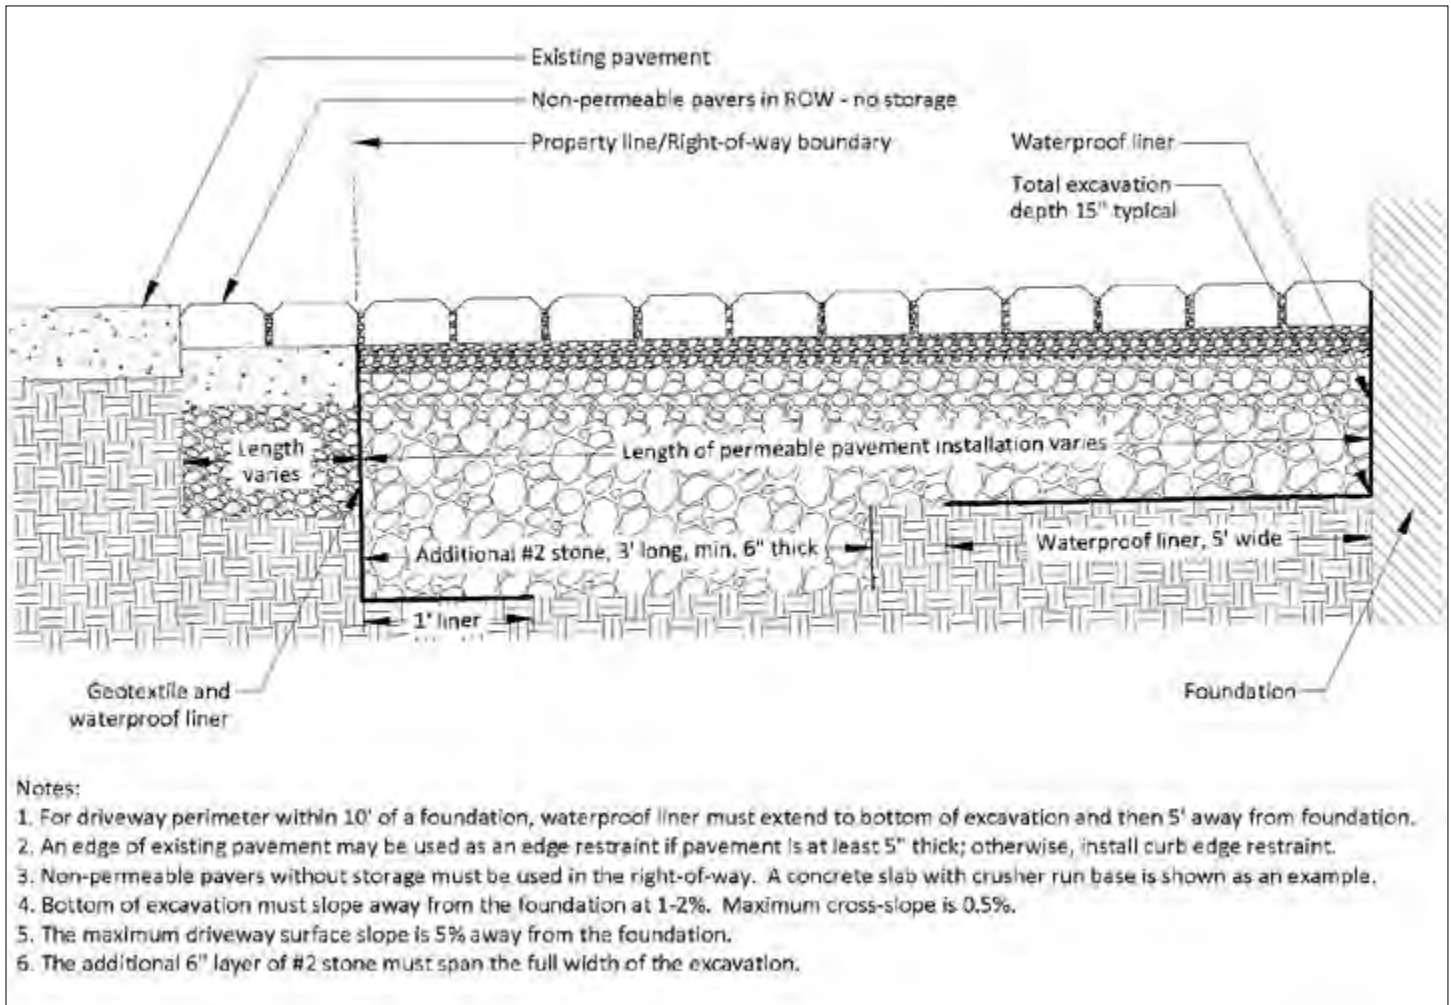

Figure 4. Cross-section at downslope end of driveway
1. A concrete curb, cast in place or precast, with a minimum four-inch width. The curb should extend at least nine inches below the finished driveway surface. This depth may include the thickness of a soldier or sailor course adhered to the top of the curb. The top of the curb may be below grade (recommended) or flush with the driveway surface (Figure 4).
- A soldier or sailor course can be laid along the edges of the driveway (Figure 4). Serving as a decorative border, soldier or sailor course pavers typically differ from those used in the rest of the driveway. Non-permeable pavers can be used. Soldier and sailor courses are laid perpendicular or parallel to the edge restraints, respectively, and the choice depends primarily on aesthetic preferences.
- b) The overflow pipe should just touch the edge of the stone reservoir, but not overlap it (Figures 4 and 5).
- e) Locate the position of the pop-up drain. The rim of the pop-up drain must be at least 1½ inches below the top of the upstream end of the overflow pipe (Figures 4 and 5).
- b) The top of the curb may be below grade (recommended) or flush with the driveway surface (Figure 4).